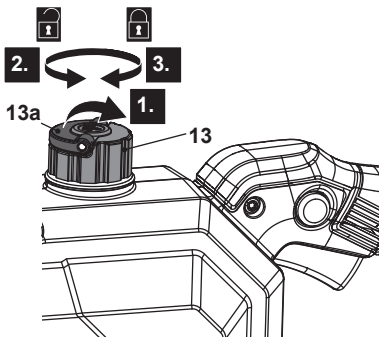

Fig. 9
1. Place the product on a stable, level surface with the oil tank cap (13) facing upward. We recommend laying a non-flammable sheet under the product.
2. Flip the locking ring (13a) up and hold it, then unscrew it anticlockwise and remove the oil tank cap (13) (Fig. 9, steps 1, 2).
5. Check the oil level window (18) prior to start-up and regularly during operation. Refill oil when the oil level is close to the bottom of the oil level window (18).
6. Wipe up spilled lubricant with a soft cloth and refit the oil tank cap (13) (Fig. 9, step 3).